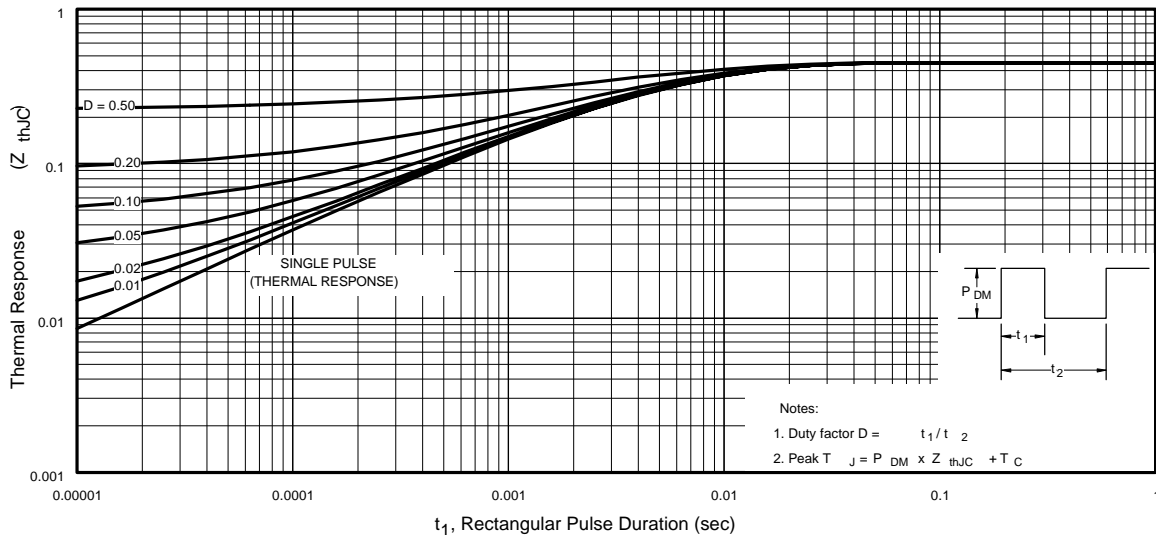

Fig 11. Maximum Effective Transient Thermal Impedance, Junction-to-Case
- ① Repetitive rating; pulse width limited by max. junction temperature. (See fig. 11).
$Z_{thJC}(D, t_{av})$ = Transient thermal resistance, see figure 11)